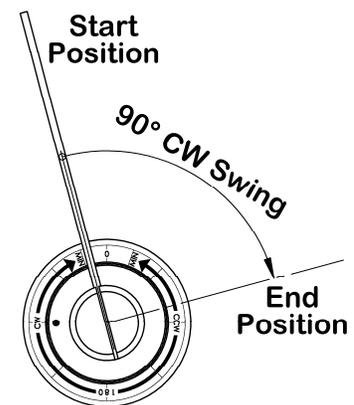

Figure 1: 90° CW swing angle
- Preference for clockwise (CW) or counter clockwise (CCW) swing direction.
- Swing angle – the amount of angular travel of the Swing Arm Assembly. The most common swing angle selection is 90°, as shown in Figure 1. The maximum swing angle is 175° in either CW or CCW swing direction.